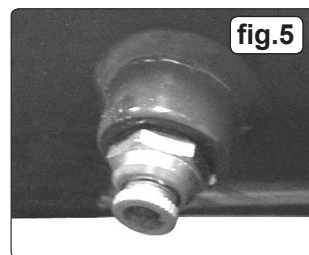

fig.5
- 5.3. Ensure that the tank drain valve is closed (fig.5).
- 5.14. The tank must now be drained. This will release the air left in the tank and drain away condensation that may have formed within the tank. Choose a suitable location for this operation and/or make provision to collect the condensation. **Wear ear and eye protection.** Open the tank drain valve (See fig.5) slowly allowing air and moisture to bleed from the tank. After bleeding close the drain valve to prevent debris building up in the valve.
- a) Drain condensation, place a container under the valve and open the valve by turning anti-clockwise (fig.5). Retighten the valve.